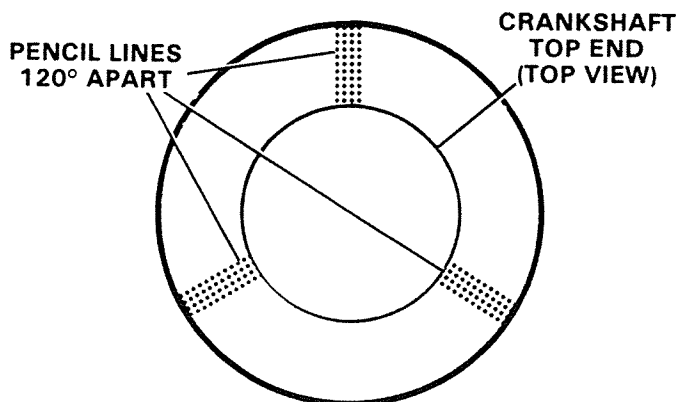

Figure 6. Marking Flywheel.
- B. Draw three (3) vertical lines on crankshaft, 120° apart, using a dark lead pencil. Figure 6.